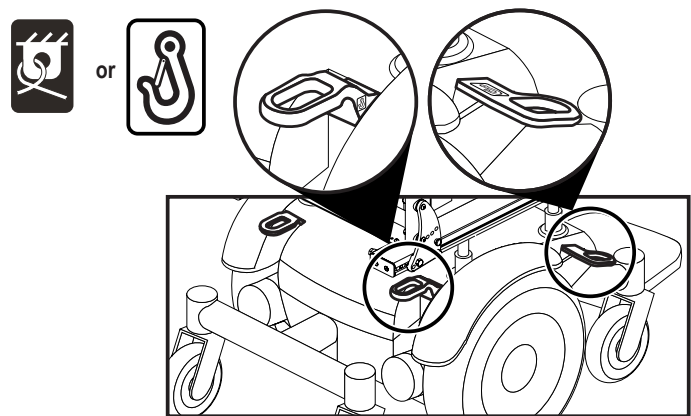

Figure 6. Transit System Securement Brackets
If your power chair is equipped with a transit securement system, it is equipped with manufacturer installed front and rear securement brackets and may be equipped with positioning belt anchoring brackets. **See figure 6.** Refer to the supplement provided with your power chair for information on how to use the transit securement system.
- Attach the four (4) tie-down straps to only designated, labeled transit securement points indicated by anchor symbols on the power chair. **See figures 6 and 7.** Tighten the straps sufficiently to remove all slack.